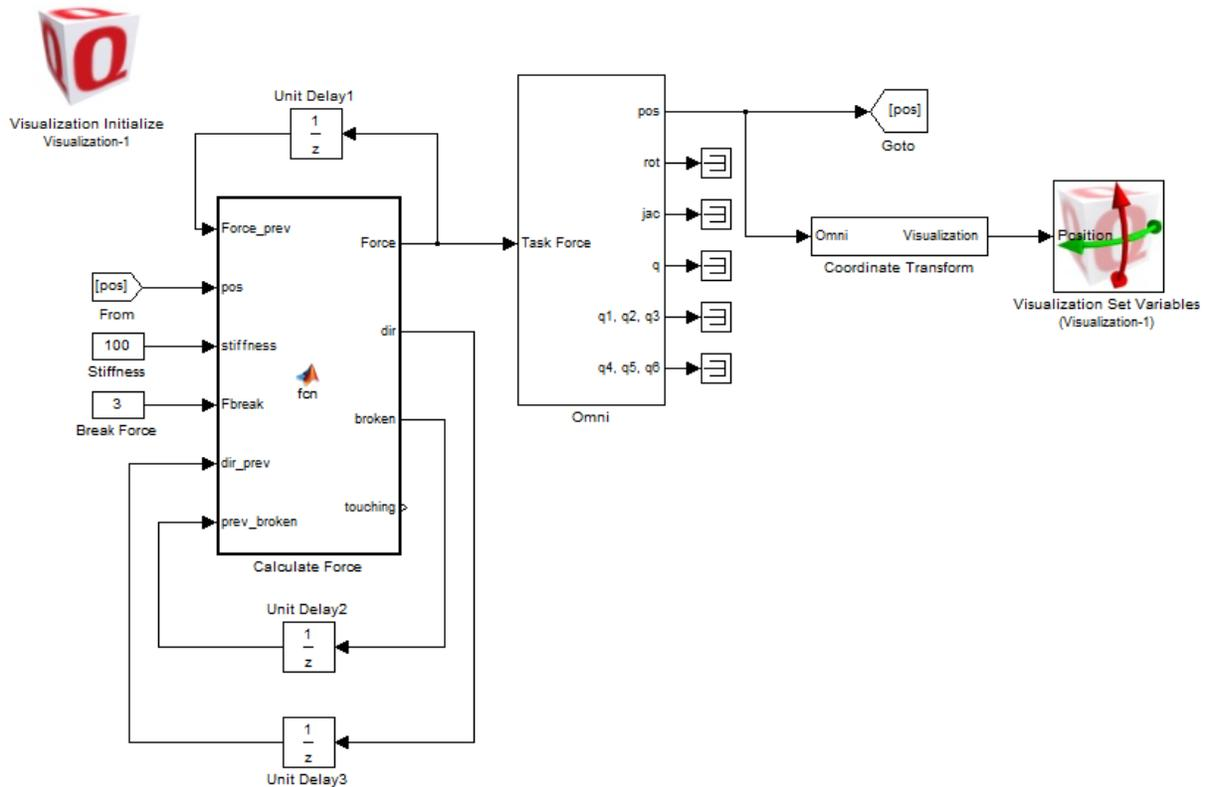

Figure 11.5: Example model to implement haptic wall puncture
- If you need to know the value of a signal in the previous sample time, use the **Unit Delay** blocks as shown in Figure 11.5. Inside this block, set the *Initial condition* to be the value(s) that you want the signal to have initially.
Your model may resemble Figure 11.5, but keep in mind this model only shows one solution to implement this behavior. There may be other solutions.